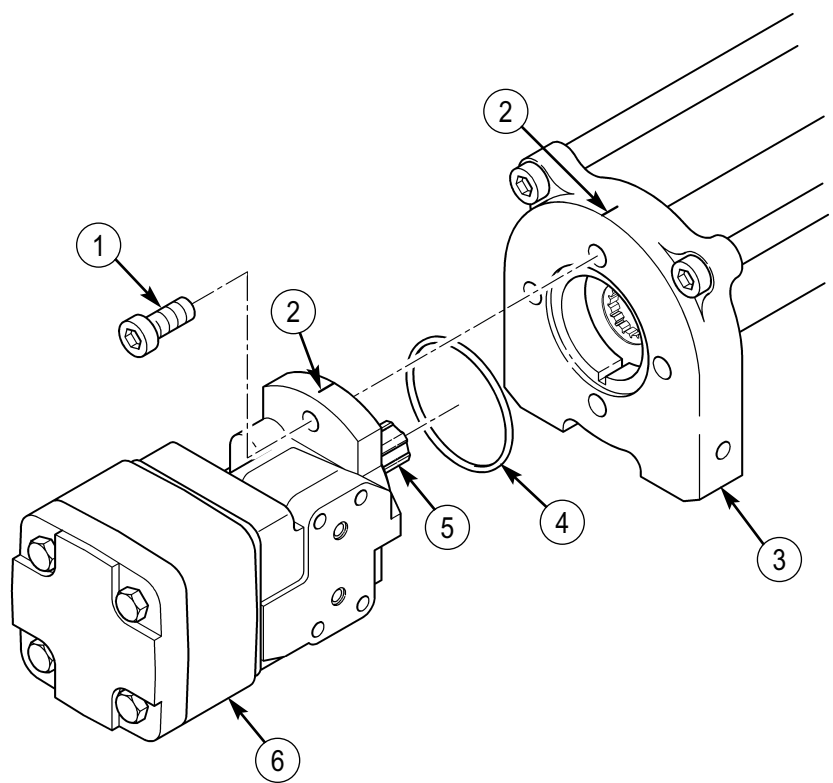

Figure 4
11. Scribe a line (2) on hydraulic motor (6) and motor end support assembly (3) as shown in figure 4.
12. Remove two bolts (1), hydraulic motor (6), and O-ring (4) from motor end support assembly (3) as shown in figure 4. Discard O-ring (4).
20. Apply hydraulic fluid to new O-ring (4) and GAA grease to splines (5) of hydraulic motor (6). Install O-ring (4) and motor (6) onto motor end support (3), aligning scribe marks (2) as shown in figure 4.
21. Apply adhesive to threads of two bolts (1) and install on motor (6) and end support (3) as shown in figure 4. Tighten bolts (1) to 45 lb-ft.